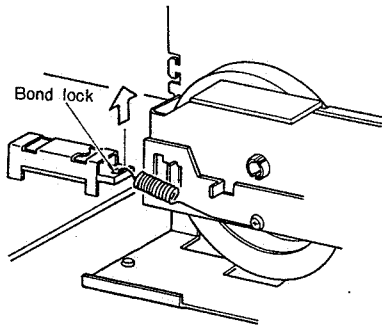

Fig. 12
2) Remove the slide switch with bond when installing the spring again. (See figure 12)